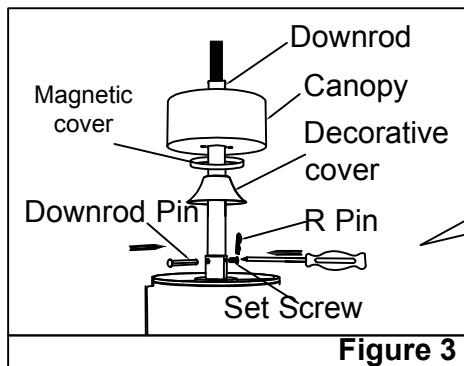

Figure 3
- 1.Lock the upper downrod pin and the "R" pin lock, and tighten the screws on both sides to fix them. **(Figure 3)**